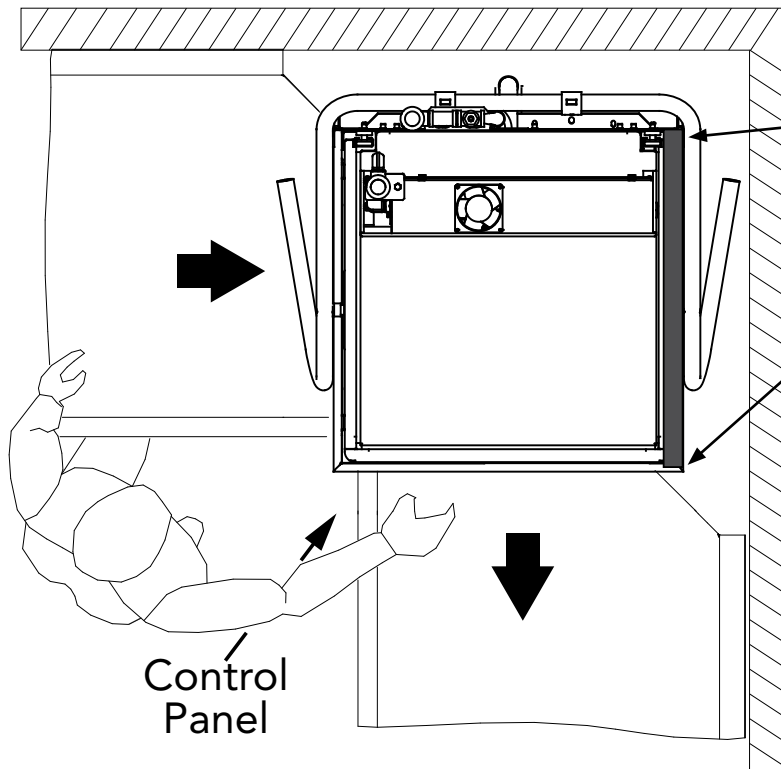

Fig. 4
1. The control panel must be accessible from the front as shown in Fig. 4.